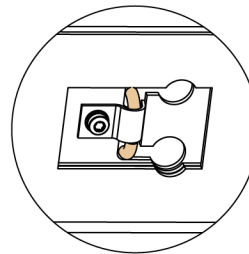

Figure 22. Storing the removed jumper cable on the delay-line assembly
3. Follow the steps shown in Figure 22 on page 53 to store the jumper that was removed in the previous step. If you ever need to remove the delay line (for example, to test optical signals), you'll have the original jumper available to re-install.